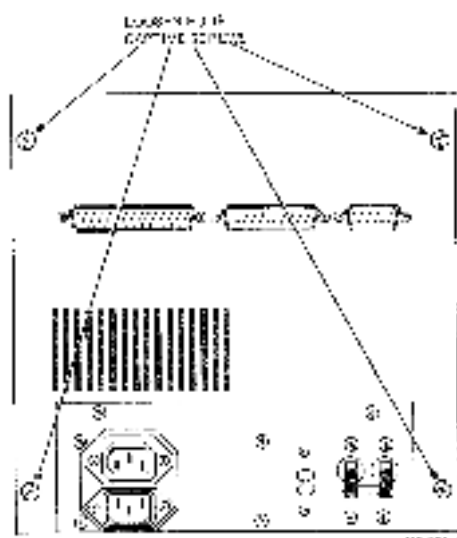

Figure 4-7 Removing the Tabletop Cover/Bezel Assembly
2. At rear of drive, release four captive Phillips head screws that secure cover to rear bezel (Figure 4-7).